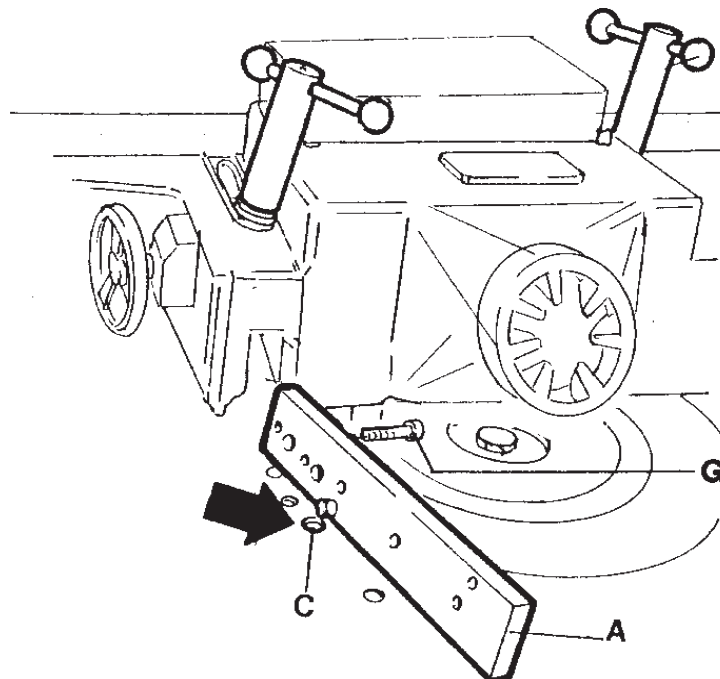
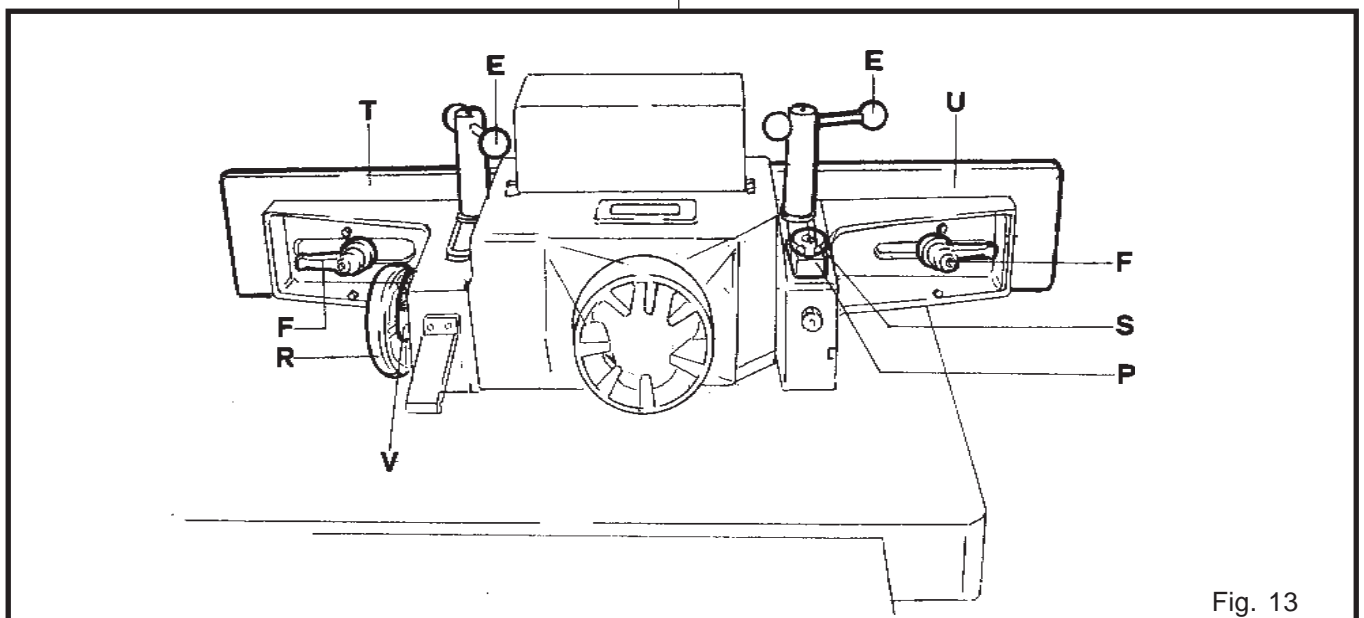

Fig. 12
Fig. 13
Cuffia-guida toupie con registrazione della posizione -Lavori di profilatura- fig.13
- 3) Inserire il perno con maniglia E nelle sedi filettate fig. 13 : non stringere i perni.
- 4) Portare la guida in legno con il pomello S fig.13 completamente indietro (prima di iniziare la lavorazione).
3.6 - MOULDER FENCE ADJUSTMENT, figs. 12 and 13
Hood-and-moulder fence adjustment for shaping jobs (fig. 13). Mount the tool before installing the hood-and-moulder fence. The adjustable fence is secured to the largest ring.
- 1) Place the mounting plate (A) on the worktable as shown in figure 12. Insert the dowel into the hole (C) and secure the plate to the largest ring by using the screw (G).
- 2) Place the hood-and-moulder fence assembly so that the groove fits over the plate (A).
- 3) Fit the handle-and-pin assembly (E) into the tapped holes (see fig. 13). Do not tighten the threaded pins.
- 4) Before starting work, move the wooden fence fully backwards by using the knob (S, fig. 13).
- 5) Use the handwheel (R) to set the wooden fence to the required working position.
- 6) Use the handwheel (R) to adjust the half-fence (T) according to the amount of material to be removed.
Funda-guía toupie con regulación de la posición - Trabajos de perfilado - fig. 13. Montar el grupo funda - guía toupie después de haber colocado y fijado el utensilio. La guía especial regulable está fijada en el anillo más grande.
- 3) Introducir el perno con manilla E en los alojamientos fileteados - fig. 13: no apretar os pernos.
- 4) Colocar la guía de madera con el pomo S, fig. 13 completamente hacia atrás (antes de iniciar el trabajo).
7) Avvicinare le due metà guida T-U il più possibile all'utensile e bloccarle con le maniglie F fig.13.
- 7) Move the two half-fences (T and U) as close as possible to the tool and secure them in place by using the handles (F, fig. 13).
- 7) Acercar las dos mitades guía T-U lo más posible al utensilio y bloquearlas con las manillas F (fig. 13).